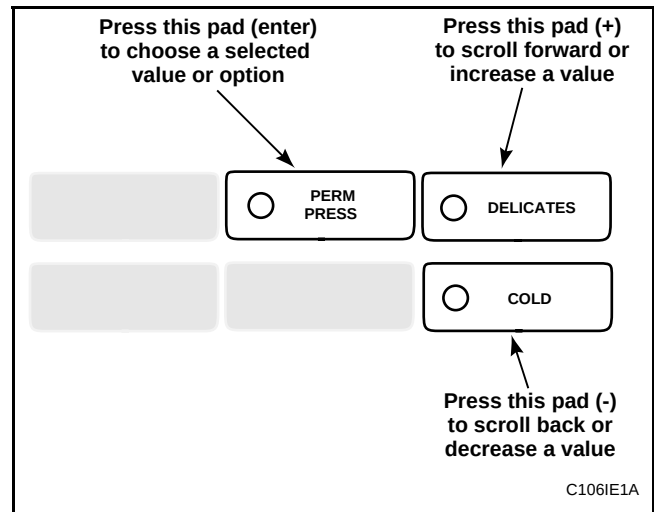

Figure 66
5. Press the DELICATES (+) or the COLD (-) keypad to increase or decrease the current number of minutes displayed in the VFD to the desired number of minutes. See **Figure 66**.